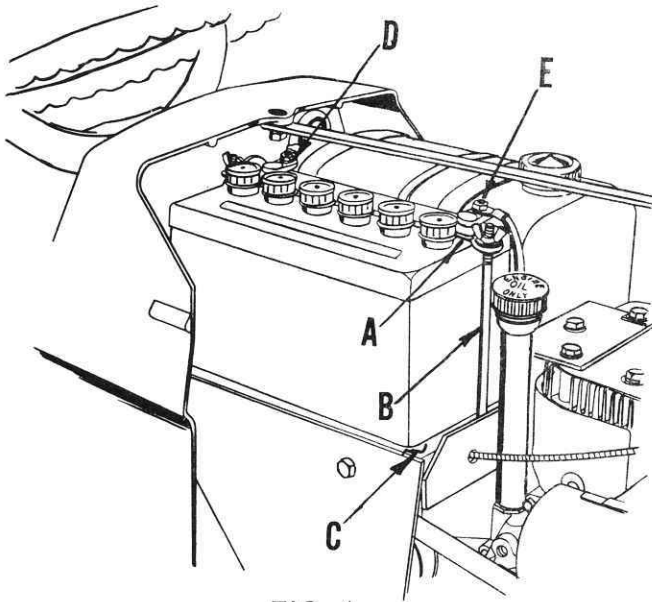

FIG. 4
3. Slide battery into position with terminals to center of tractor as shown in Fig. 4.
4. Hook the other battery bolt (B), into the front of the battery support (C). Assemble clamp (A), to bolt (B), with the remaining washer and wing nut as shown in Fig. 4. Tighten both wing nuts securely.
5. Refer to Fig. 4. Connect starter switch (D), cable (red cover), to plus (+) terminal. Tighten nut securely. Nut shipped in plastic bag.
6. Refer to Fig. 4. Connect ground (E), cable (black cover), to negative (-) terminal. Tighten nut securely. Nut shipped in plastic bag.